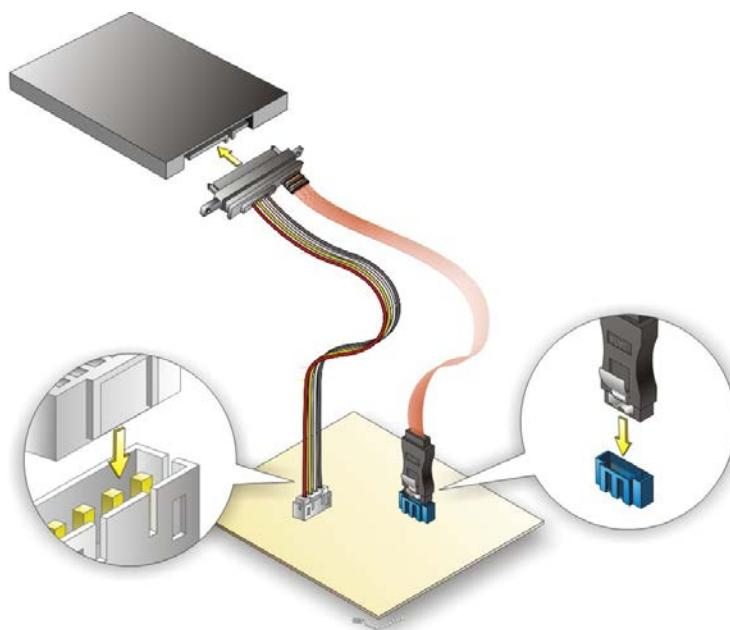

Figure 4-7: SATA Drive Cable Connection
Step 2: Insert the cable connector. Insert the cable connector into the on-board SATA drive connector and the SATA power connector. See Figure 4-7.
Step 3: Connect the cable to the SATA disk. Connect the connector on the other end of the cable to the connector at the back of the SATA drive. See **Figure 4-7**.